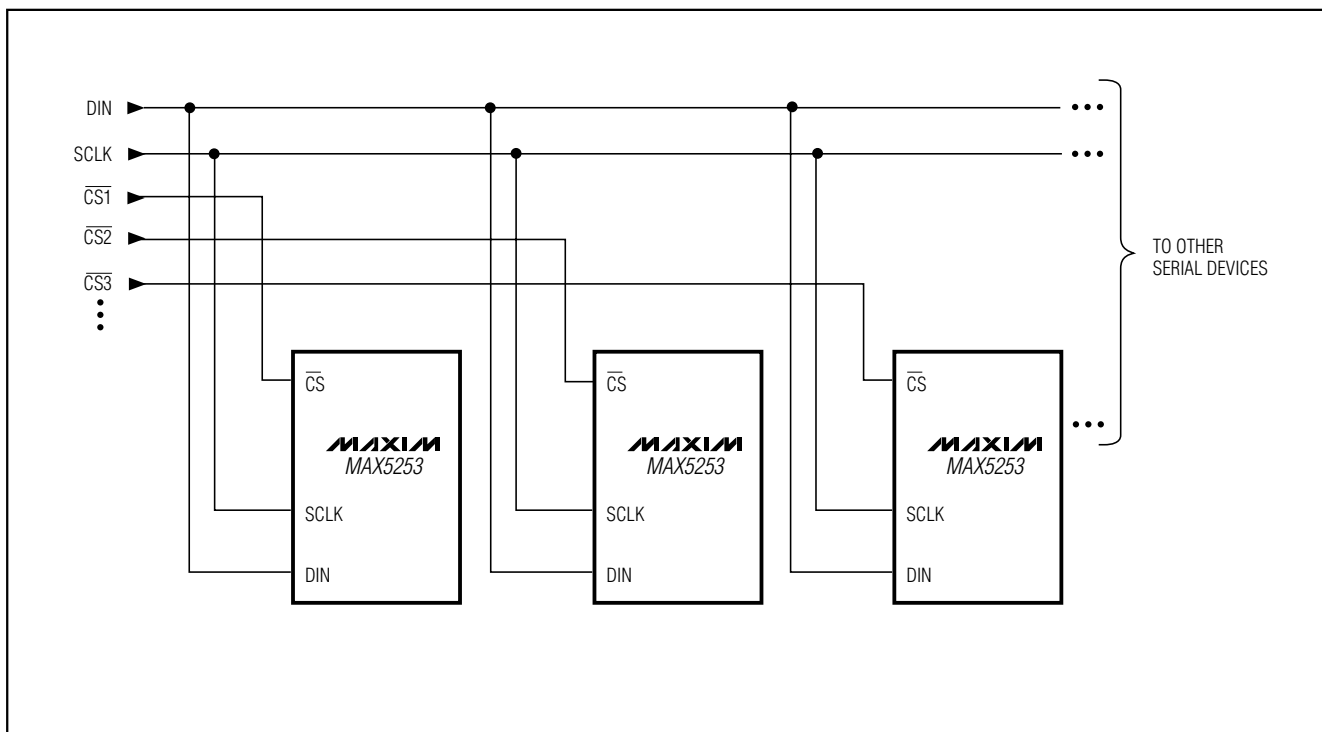

Figure 8. Multiple MAX5253s Sharing a Common DIN Line
Figure 8 shows an alternate method of connecting several MAX5253s. In this configuration, the data bus is common to all devices; data is not shifted through a daisy chain. More I/O lines are required in this configuration because a dedicated chip-select input (CS) is required for each IC.